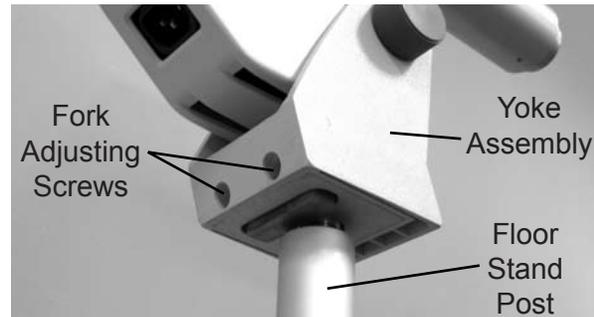

Figure IS-15 Attach Yoke Assembly
3. Once the Yoke Assembly is in the desired position, tighten the Fork Adjusting Screws until the Yoke does not move. Refer to Figure IS-15.